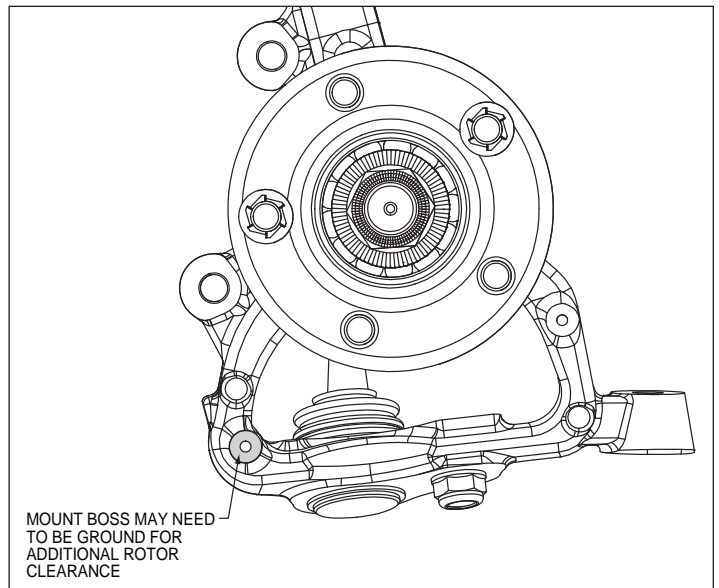

Figure 4. Mounting Boss Modification
- Slide the rotor registration adapter (6) onto the axle register on the axle hub with the smaller O.D. facing outward, Photo 3. Slide the hat/rotor assembly onto the axle hub. **NOTE:** *The hat must fit flush against the axle hub flange or excessive rotor run out may result.* Install three lug nuts (finger tight) to keep the hat/rotor assembly in place while continuing with the installation. **NOTE:** *Check clearance between rotor and upright at backing plate mounting boss, Figure 4. Verify there is a minimum of .050".* If not, remove material from mount boss on upright.